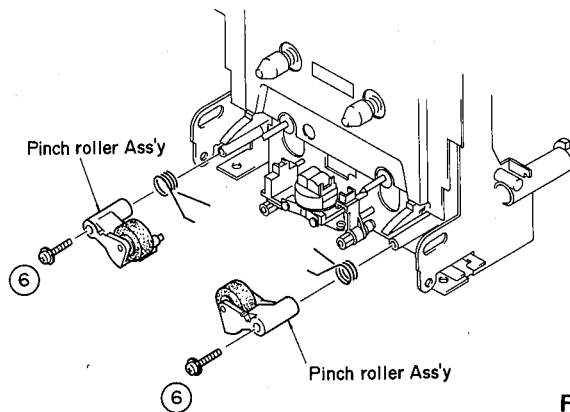

Fig. 4
- a. Remove the Ering (6) in Fig. 4.